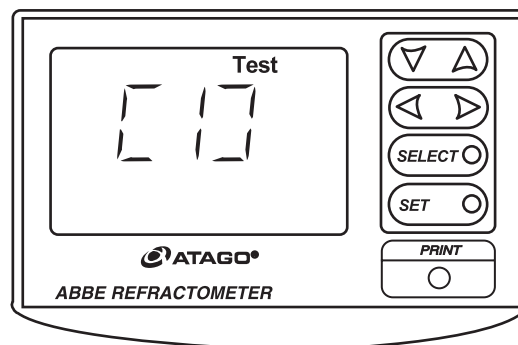

Fig. 10-5
(2) Mode [3] (LCD test)
① Press the SELECT key to select the "Test" mode. With the "Test" appearing in the indicator, [1] is displayed in the measurement value indicator (Fig. 10-5).